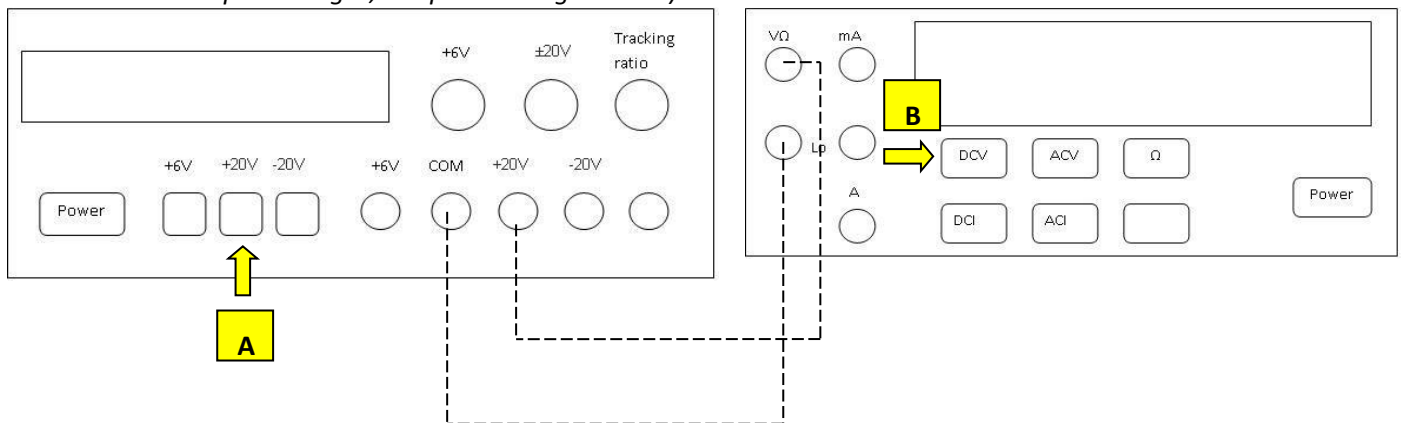

Figure 1a. Connecting the multimeter to the power supply.
2. Connect the power supply directly to the multimeter as shown in Figure 1a and press button **A** as indicated in Figure 1a on the left. Remember that you are measuring DC voltage, so make sure the multimeter is set to measure this, measured by pressing button **B** indicated in Figure 1a. Use to **Banana plug cables** end to end.